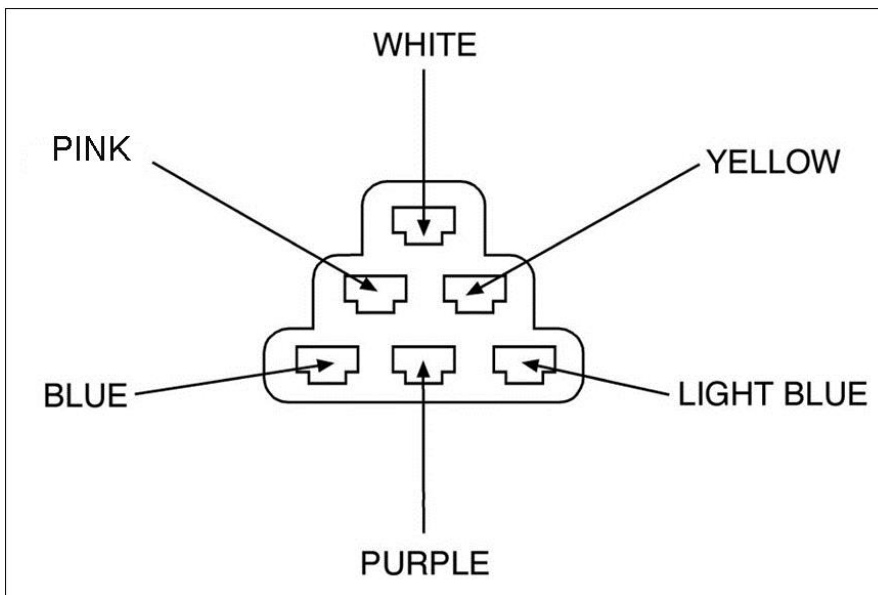

Figure 9.2 Chevrolet Turn Signal Connection (Factory Style Connector)
9.1 In the parts box, there is a special turn signal switch connector housing, along with 6 terminals for connecting the harness to the factory signal switch. See **Figure 9.2** for wire pinout diagram, and **Table 9.3** for the wire # and circuit designation.